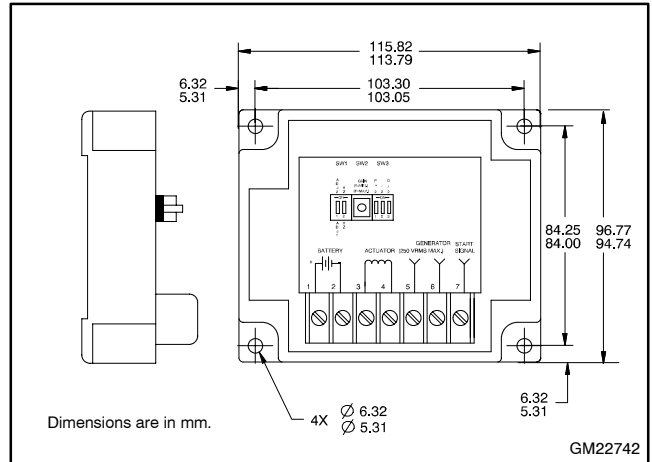

Figure 2 Replacement Governor GM22742
Figure 2 shows an illustration of the replacement governor.
11. Connect leads 1-5 to terminals 1-5 on the new governor controller. See Figure 2 and the